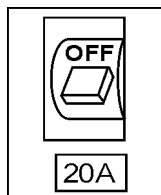

Figure 21. Main Circuit Breaker (OFF)
1. Place main circuit breaker (Figure 21) in the **OFF** position.